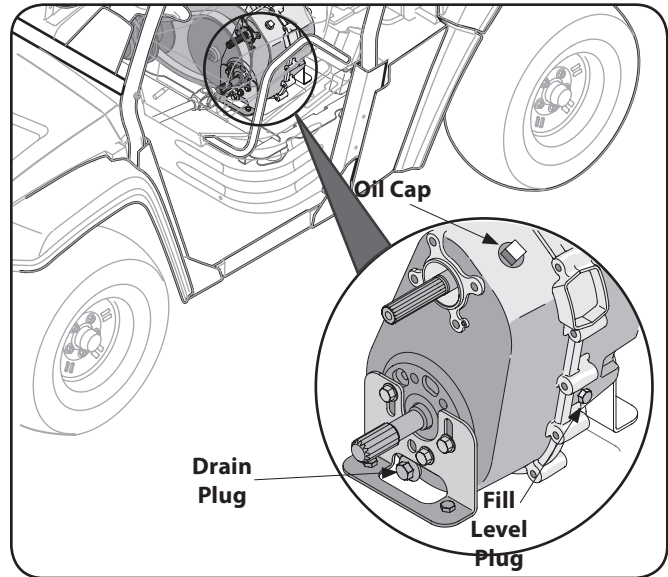

Figure 6-2
4. Access drain plug through slot on underside of machine and remove plug. See Fig. 6-2.
- NOTE:** If necessary, you may remove the fill level plug to assist with determining the level to which the transmission may be filled. See Fig. 6-2. When oil begins coming out of fill level opening, the transmission is full. Replace fill level plug when finished.